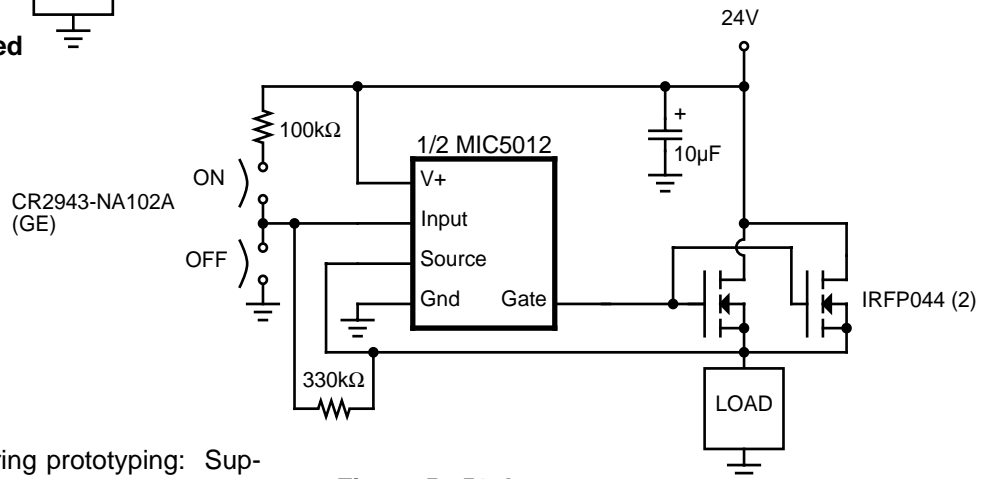

Figure 5. 50-Ampere Industrial Switch
Industrial Switch (Figure 5). The most common manual control for industrial loads is a push button on/off switch. The "on" button is physically arranged in a recess so that in a panic situation the "off" button, which extends out from the control box, is more easily pressed. This circuit is compatible with control boxes such as the CR2943 series (GE). The circuit is configured so that if both switches close simultaneously, the "off" button has precedence.